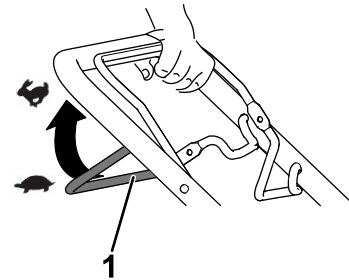

Figure 14
- To engage the self-propel drive, pull the self-propel-drive bar to the handle and hold it (Figure 14).